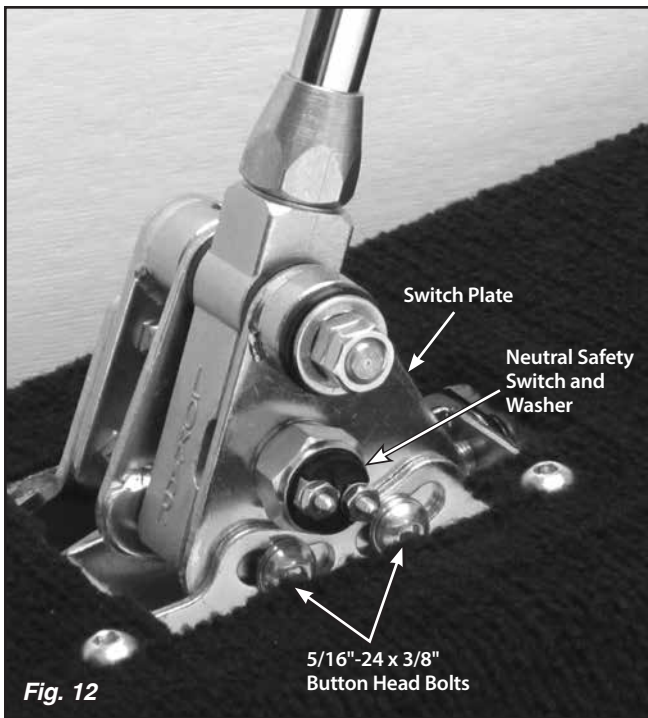

Fig. 12
Step 17: Remove the neutral safety switch and washer (**Fig. 12**) from the right side of the shifter using a 7/8" wrench or socket.
Step 18: Loosen, but do not remove, the two 5/16"-24 x 3/8" button head bolts that attach the **right** side of the floor mount mounting bracket to the switch plate (the bolts are in curved, slotted holes). **Fig. 12**